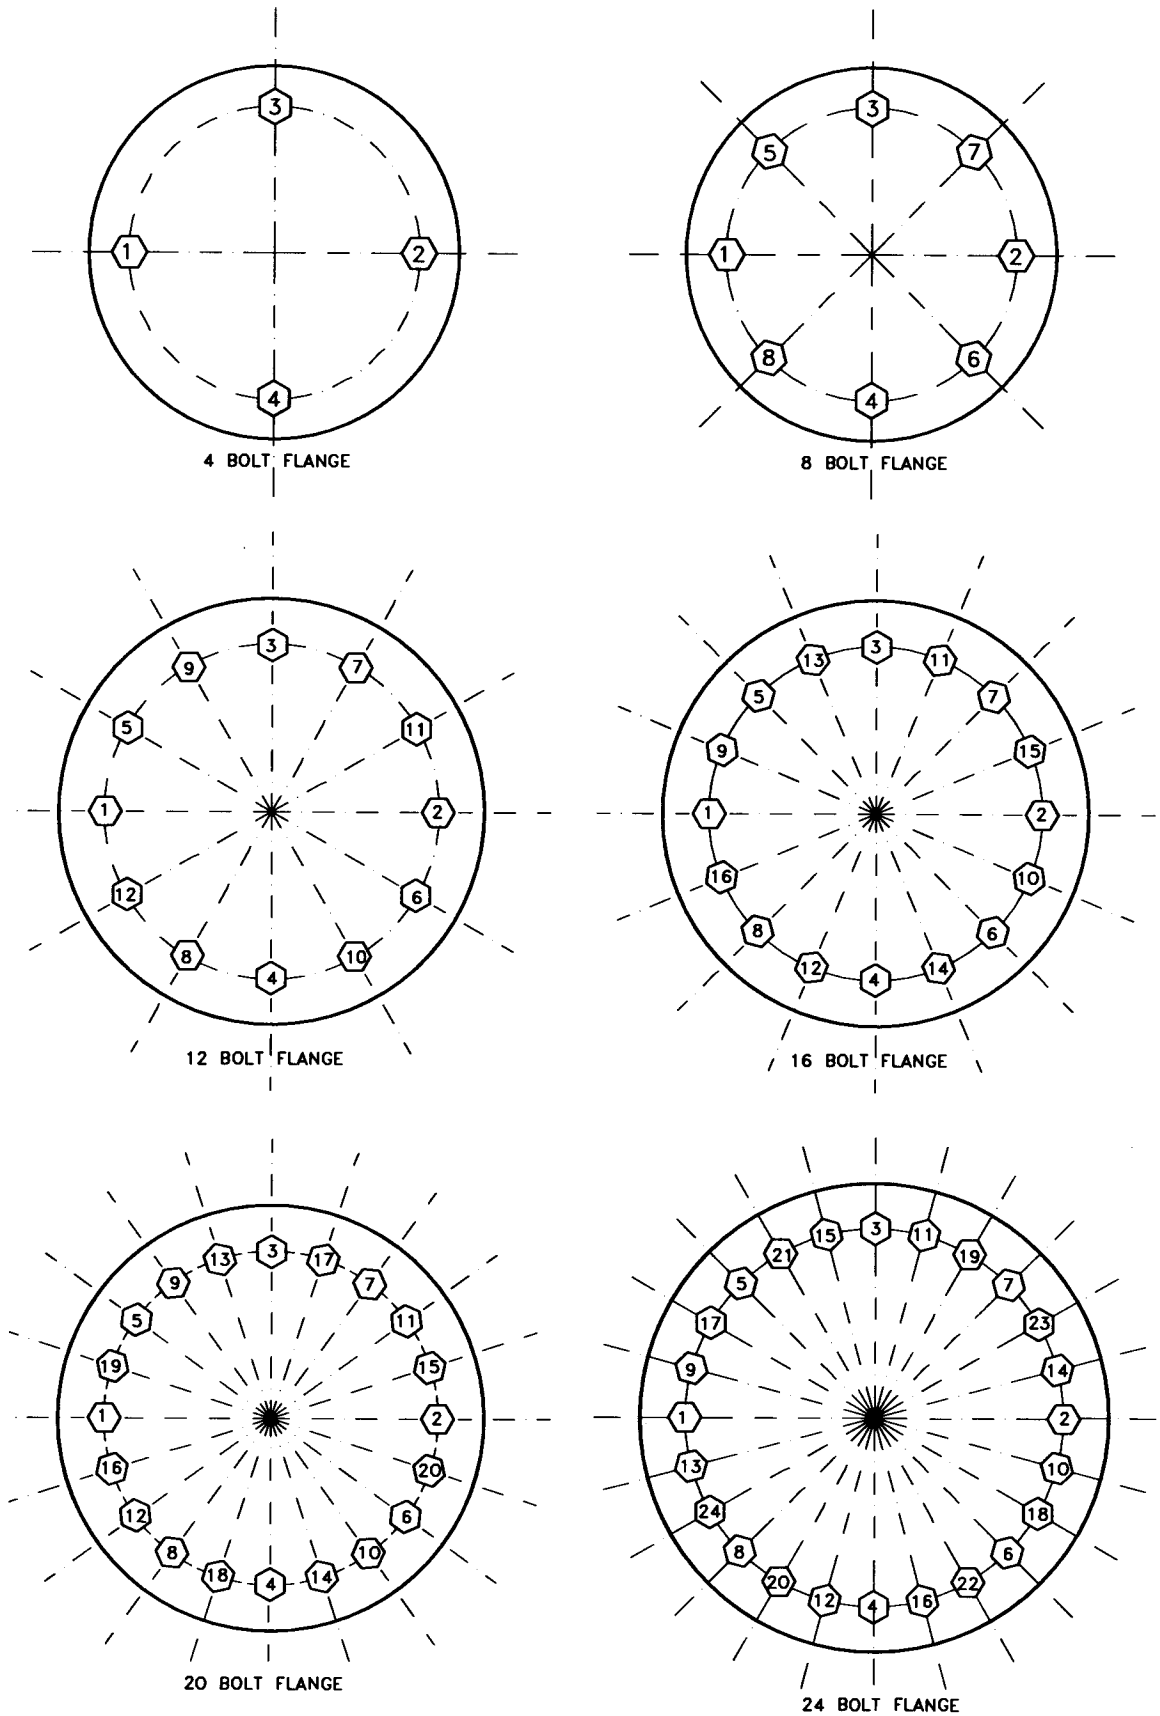

Figure 1 Typical "Criss-cross" Bolt tightening/Torque application pattern
- b) Four studs should be placed in positions 1, 2, 3 and 4 according to “Stud Tightening Pattern” in Fig. 1, as centring guides for the gasket.
- d) Load cells should be shifted following the Criss-cross Pattern shown in Fig. 1 but in-groups of 4 bolts each (i.e. 1-2-3-4, 5-6-7-8, 9-10-11-12 etc.) and the tensioning of all bolts should be completed.
- a) Bolt torque application sequence shall be in accordance with “Criss-cross Stud Tightening Pattern” (Fig. 1).
- i. All the nuts should be made snug tight with a short wrench (Criss-cross Pattern – Fig.1).
- ii. Tightening to 30% of the final torque value (Criss-cross Pattern – Fig. 1).
- iii. Tightening to 60% of the final torque value (Criss-cross Pattern – Fig.1).
- iv. Tightening to the final torque value (Criss-cross Pattern – Fig. 1).